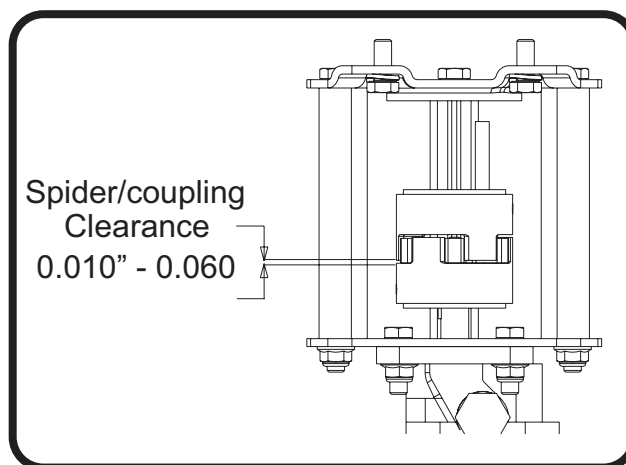

Figure 2.9
1. Insert a 0.010" to 0.060" (0.25 - 1.5 mm) feeler gauge between the coupler halves. See Figure 2.9.